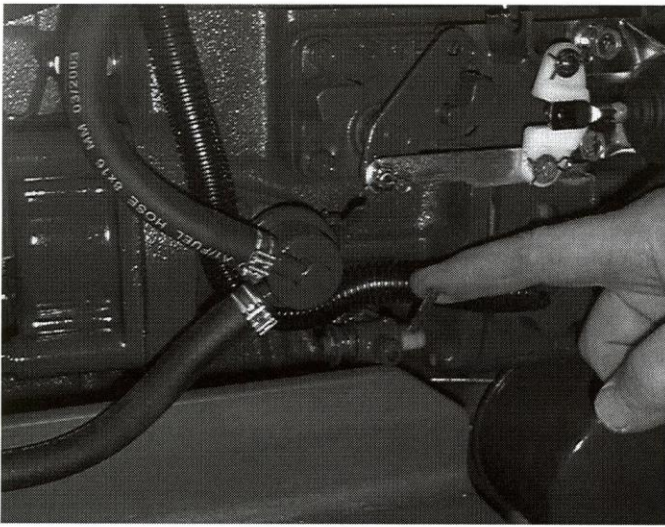

Fig. 2l
- (b) Check that the drain tap or plug is turned off. (see fig 2l)